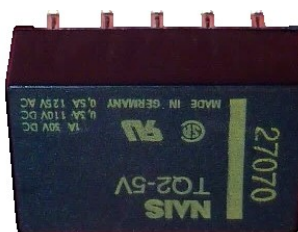

Figure IV.10
**Attention** respecting the assembly direction: the vertical line must be placed on the right (figure IV.10).